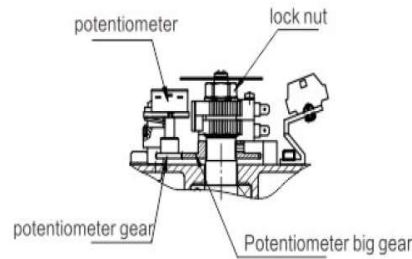

Fig17
Potentiometer provides feedback signal in the actuators using three terminals. ② wiper arm of potentiometer. ① terminal which resistance between wiper arm decreases as actuator is open. ③ terminal which resistance between wiper arm decreases as actuator is closed. (Note: The resistance should not pass over 0Ω as this will cause position measurement error). Rotate valve to the full open position. Measure resistance between ② and ① . Rotate the potentiometer gear to adjust the resistance to between 35 Ω and 60 Ω. (Figure 17)